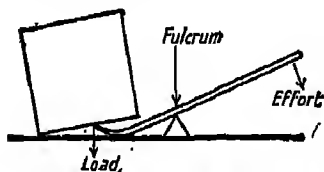

FIG. 135. A crowbar used to raise a heavy load.
**Expt. 224.** Obtain a crowbar or a rod of wood which will not easily bend. Place one end of it under a heavy object such as a large stone or a heavy piece of furniture. Place a support for the crowbar a short distance from the object to be raised (Fig. 135). Press down on the free end of the bar. The heavy object rises. Try to raise the object without the aid of the bar. Use the bar again, but this time
1. The **crowbar** with the fulcrum on a block a little distance from the load (Fig. 135).